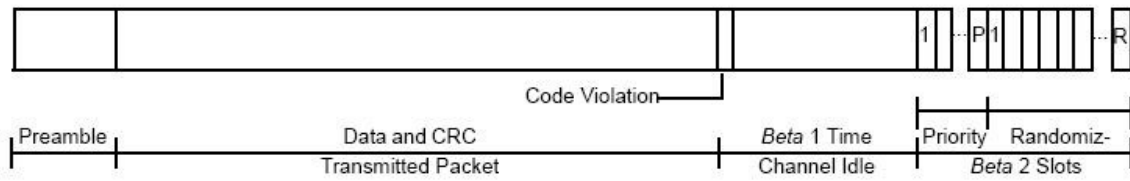

Figure 18. Packet Timing
Both priority (P) and non-priority slots are defined by the *Beta 2* time. Devices listen to the network prior to transmitting a packet. This prevents devices from transmitting packets on top of each other except when the packets are initiated at nearly the same time. In addition, devices randomize the time before they start transmitting on the network. When the network is idle, all nodes randomize over 16 slots. As the estimated network load increases, devices start randomizing over more slots to lower the probability of a collision. The number of randomizing slots (R) varies from 16 up to 1008, based on “n,” the estimated channel backlog (the number of slots is $n \cdot 16$ where “n” has a range of 1 to 63), as shown in **Figure 18**.